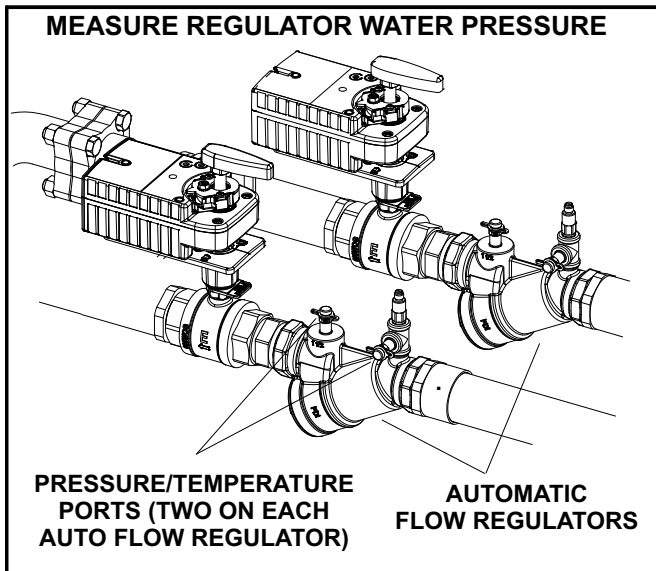

FIGURE 11
- 4- Measure the differential pressure across the automatic flow regulator using a PT gauge set. See figure 11. A minimum differential of 2.0 PSI is required for proper flow.